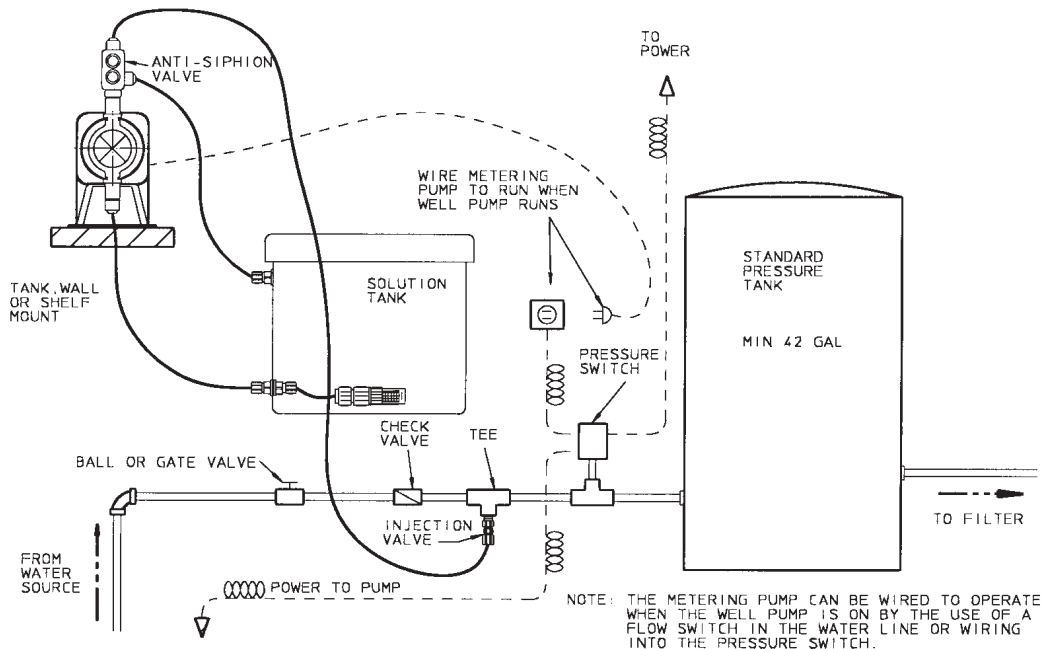

Figure 2.3
- The pump is designed to operate using a backpressure/injection valve. If the discharge point is below the liquid level of the source, or if the discharge pressure is less than the suction pressure, syphoning may occur. To correct this condition, install an anti-syphon valve or other anti-syphon device. Check local regulations that may apply. (Refer to Figure 2.3).
- **USE AN ANTI-SYPHON VALVE IN THE DISCHARGE LINE** whenever the fluid pressure in the discharge line is below atmospheric pressure. This can occur if the injection point is on the suction side of a water pump or against a "negative" head, such as when feeding down a well. See Figure 2.3 for a typical domestic water treatment installation.